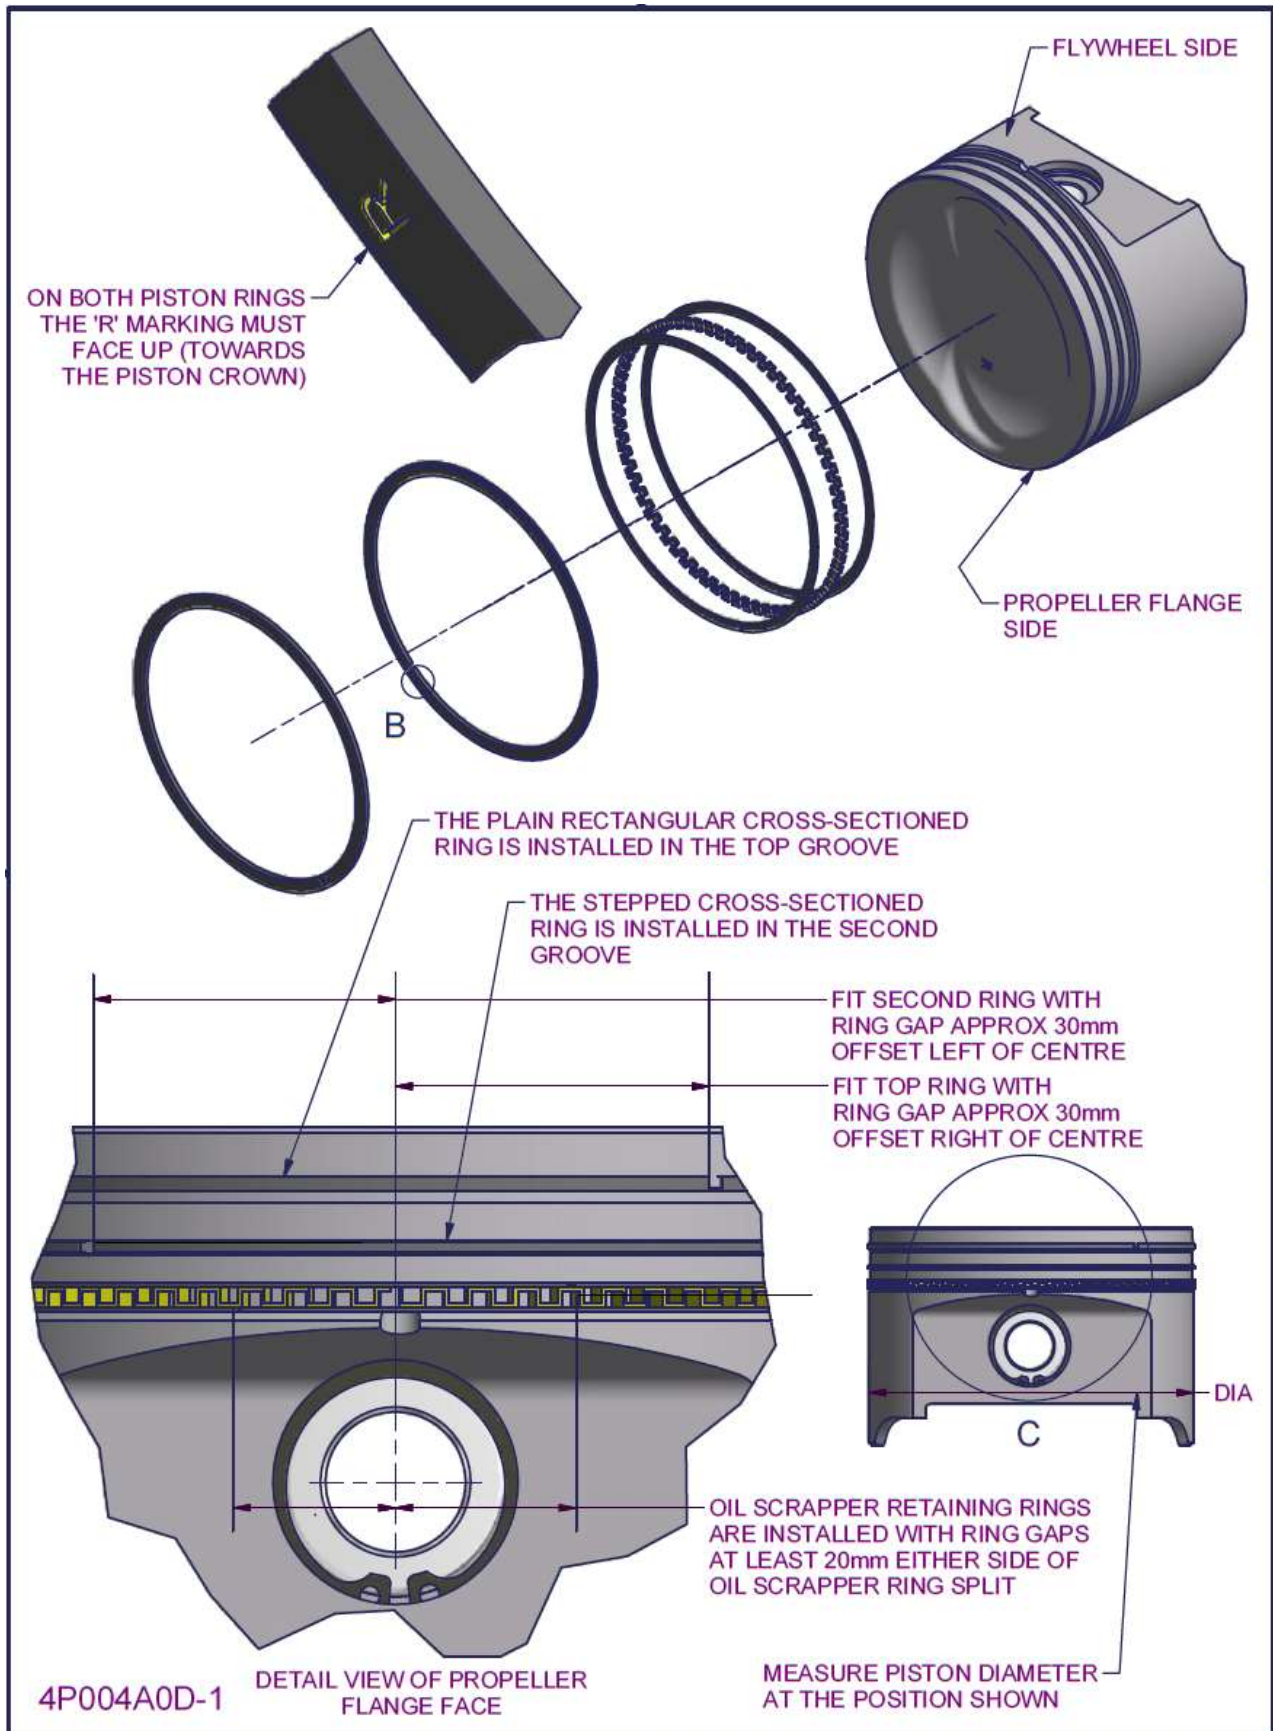

Figure 65 – 2200/3300 cylinder assembly 8
- Take a piston ring set and install the TOP ring (the difference between the TOP and SECOND rings are detailed in Figure 65) into each numbered cylinder barrel using the following action:
- Measure the diameter across the skirt of the piston in the position shown in Figure 65 using a micrometre
- The circlip must be installed with the 'eyes' at the bottom of the piston as shown in Figure 65.